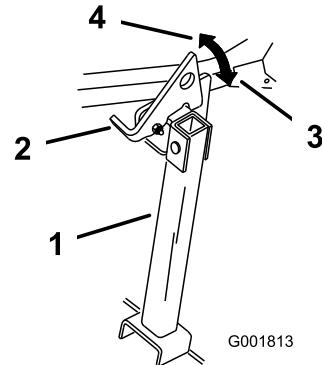

Figure 28
2. Raise the latch to the unlocked position (Figure 28).